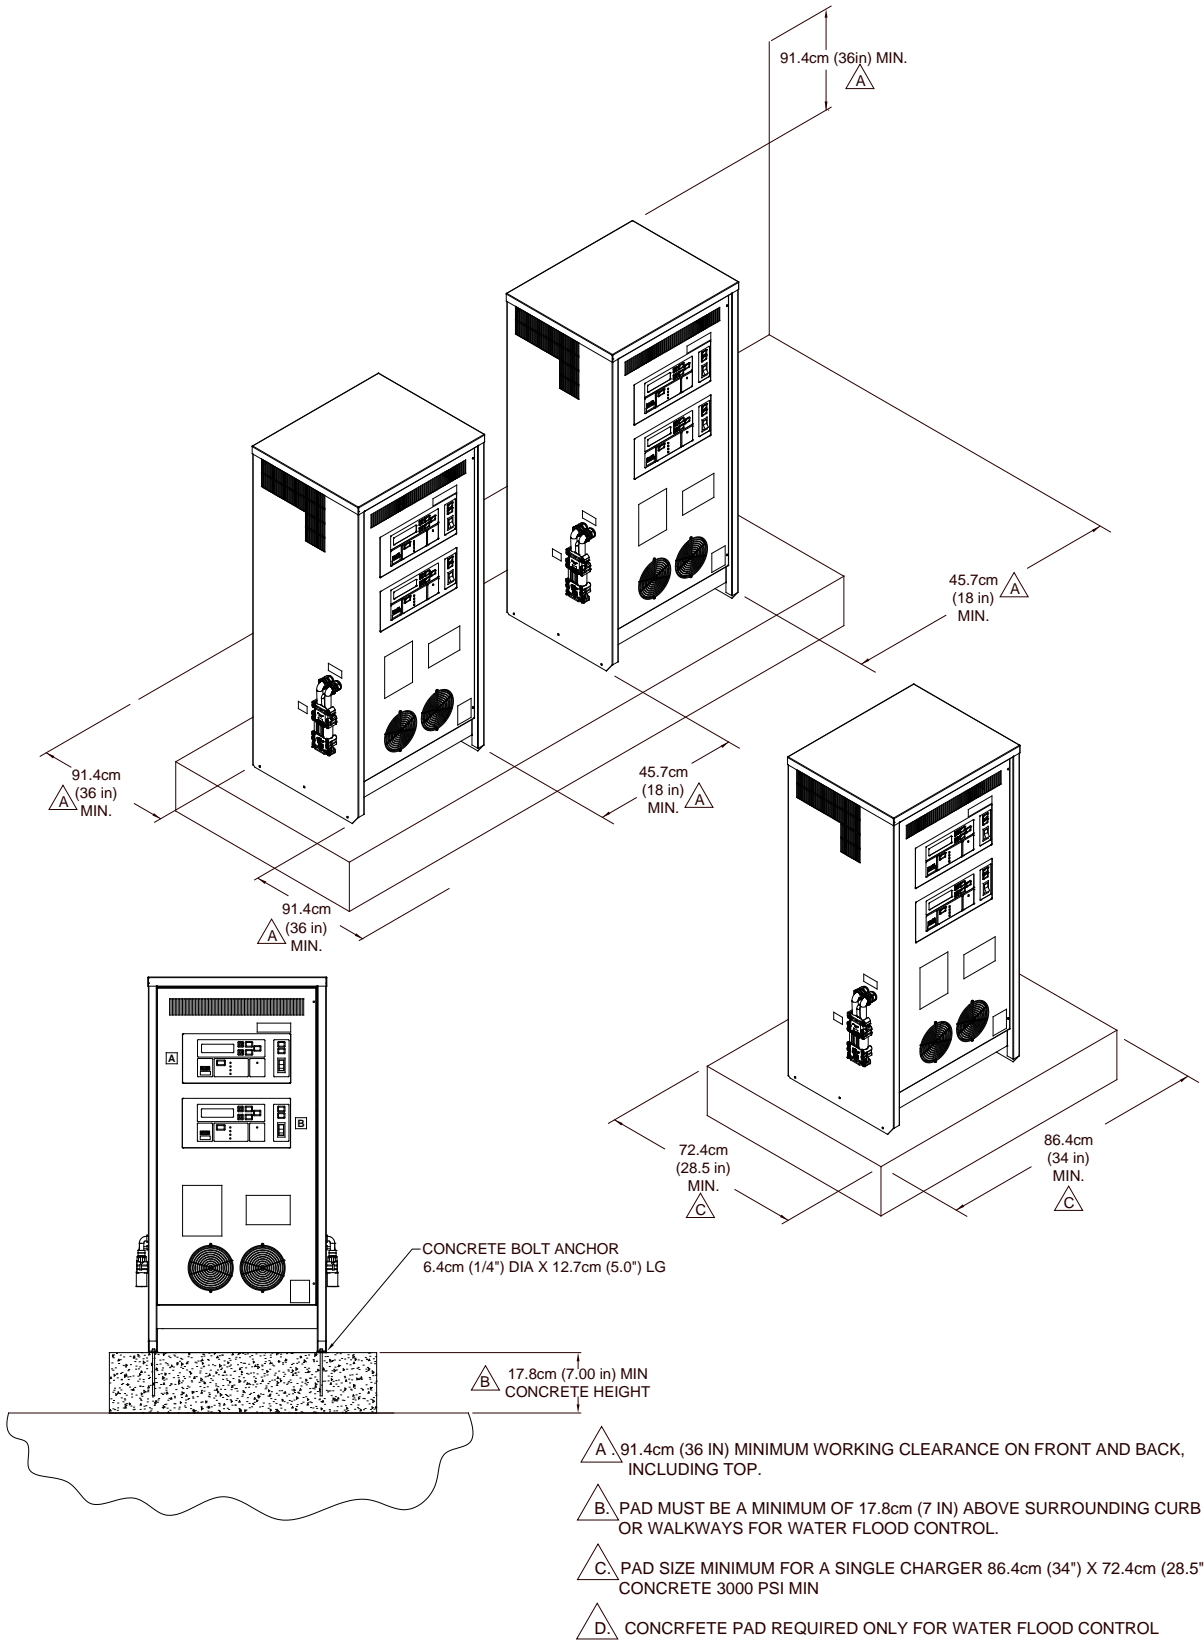
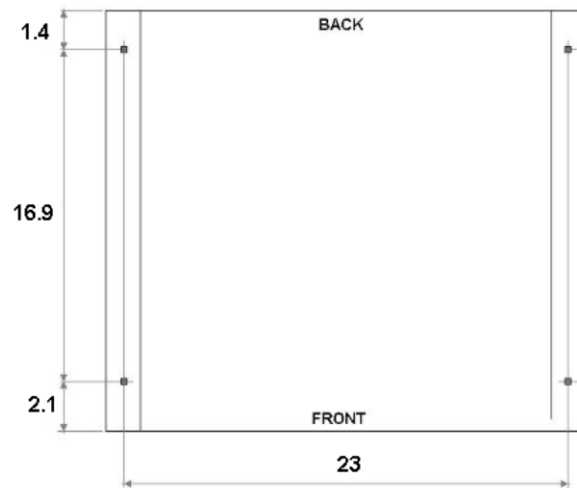

Figure 4-1 DVS-100 and DVS-150 Installation
Figure 4-2 Bolt Pattern for DVS-100 and DVS-150 Installation (Dimensions in Inches)
- Install on a cement pad minimum 7" above surrounding curbing or walkways for water flood control, see Figure 4-1 and Figure 4-2.